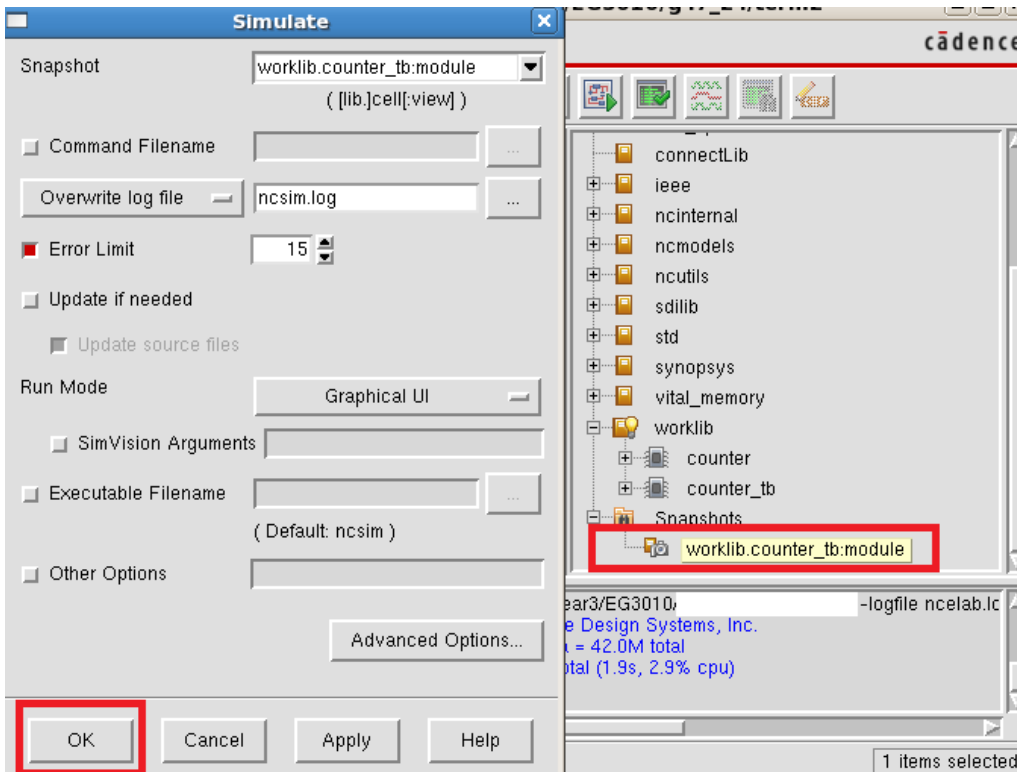

Figure 6 NCSim Window
7. Select **Snapshots/worklib.counter_tb:module** (as shown in Figure 6). **Right-click**→**NCSim**. Then click **OK**. This will allow you to setup the environment for simulation.